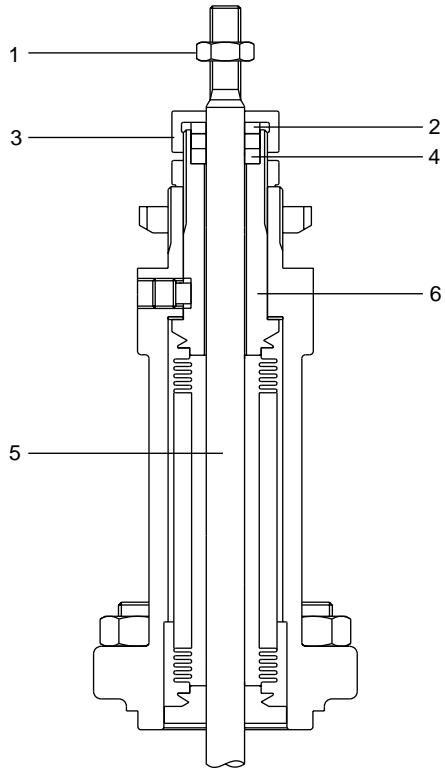

Fig. 2
2. In the event of a bellows failure, the auxiliary gland (item 3, Fig. 2, page 3) can be tightened as a temporary measure to prevent these emissions.
3.1 Procedure for renewing stem seals Fig. 2
c. Remove lock-nut (1).
d. Unscrew the nuts (12) securing the bonnet.
e. Withdraw the bonnet (11) together with the plug/stem/bellows assembly (5). Remove gland nut (3), gland bush (2) and stem seal set (4) see Fig. 2. Unscrew the plug/stem/bellows assembly lock-nut (7) and anti-rotation screw (18) withdraw the assembly from the bonnet.
- g. Replace seat gasket (17) and insert the new seat (15) into the body. Tighten to the correct torque (see Table 1, page 3).
- h. Insert the new stem/bellows assembly into the bore of the new plug and secure with the cross pin (14). The pin should be centralised within the plug and should be retained by deforming the metal around the pin hole by peening. Care should be taken to ensure that no metal is raised on the surface of the plug diameter and should be removed if necessary.
- i. Insert replacement plug/stem/bellows assembly (5) with new bellows flange gasket (10) into the bonnet (11) taking care not to damage the bellows. Replace bellows assembly anti-rotation washer (8) and lock-nut (7) and tighten to the correct torque (see Table 1, page 3).
- j. Using a new gasket (13) refit the bonnet and stem/bellows assembly on the valve body. While pushing the stem so that the valve plug is on the seat, tighten the bonnet nuts (12) to the correct torque (see Table 1, page 3).
- k. Fit new stem sealset (4) see Fig. 2, as described in section 3.1, ensuring valve stem (5) moves freely after assembly.